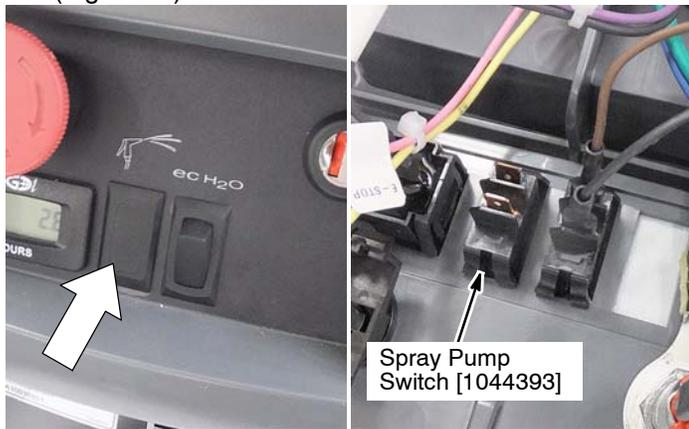

Fig. 21
3. Remove the switch plug from the console and install the spray pump switch in the orientation as shown (Figure 21).